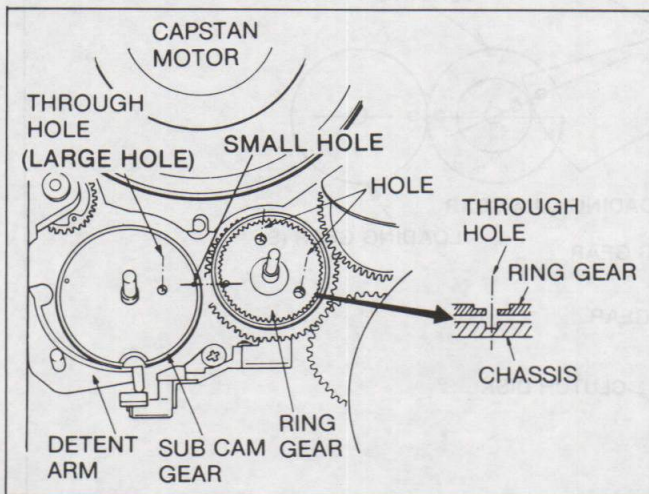

Fig. A3
1. Install the Ring Gear so that the hole of Ring Gear is exactly in line with the hole of chassis as shown Fig. A3.